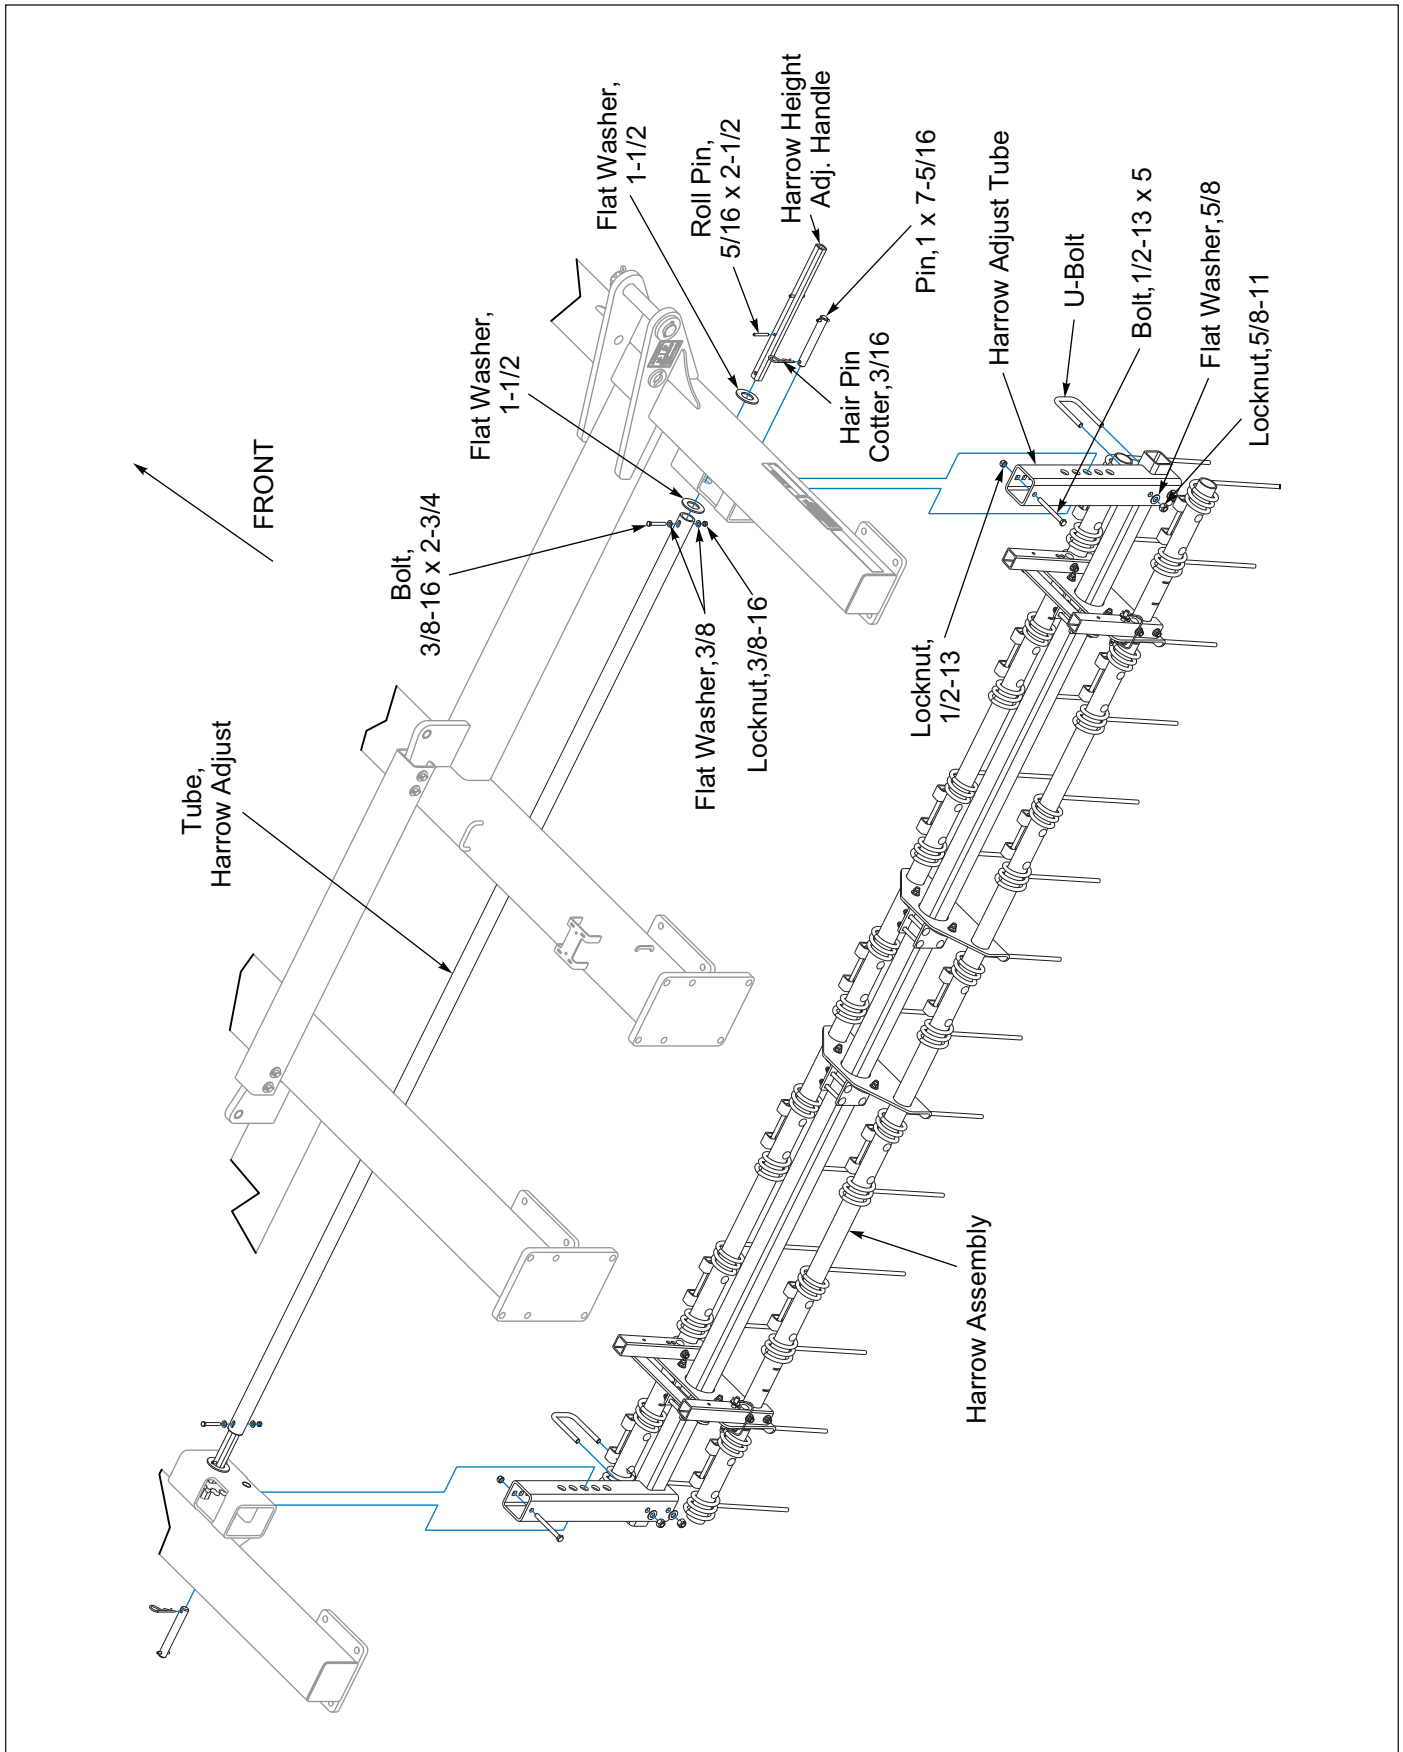

Figure 2-35: Center Frame 2-Row Harrow Installation
1. Remove 1 x 7-5/16 Pin from each Frame Adjuster Mount located on the inside of the Outer Frame Tube. Insert a Harrow Adjustment Tube into each Frame Adjuster Mount and re-insert 1 x 7-5/16 Pin in the bottom hole. Secure with 3/16 Hair Pin Cotter. **See Figure 2-35.**
2. The 2-Bar Harrow comes factory assembled. Lift Harrow Assembly and slide the Harrow 3 x 3 Tube into the cut-out portion of the Harrow Adjustment Tube and insert a 1/2-13 U-Bolt on each side. **See Figures 2-35 and 2-36.** Check Harrow position in relation to the Frame and secure with Flat Washer and Locknut.